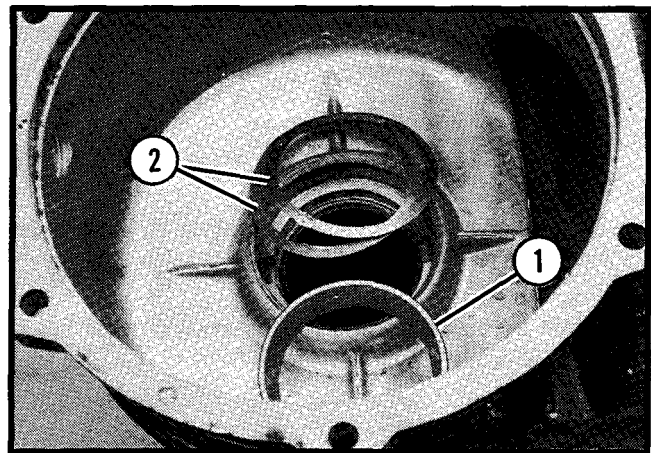

Figure 4.
2. If the carrier bearing cups need to be replaced, or if a new or rebuilt carrier assembly will be installed the shims located behind the bearing cups will be damaged when the bearing cups are removed. Measure each shim and write down its thickness, noting which side of the differential it was taken from. It will be necessary to replace them with new parts during assembly. Figure 4.